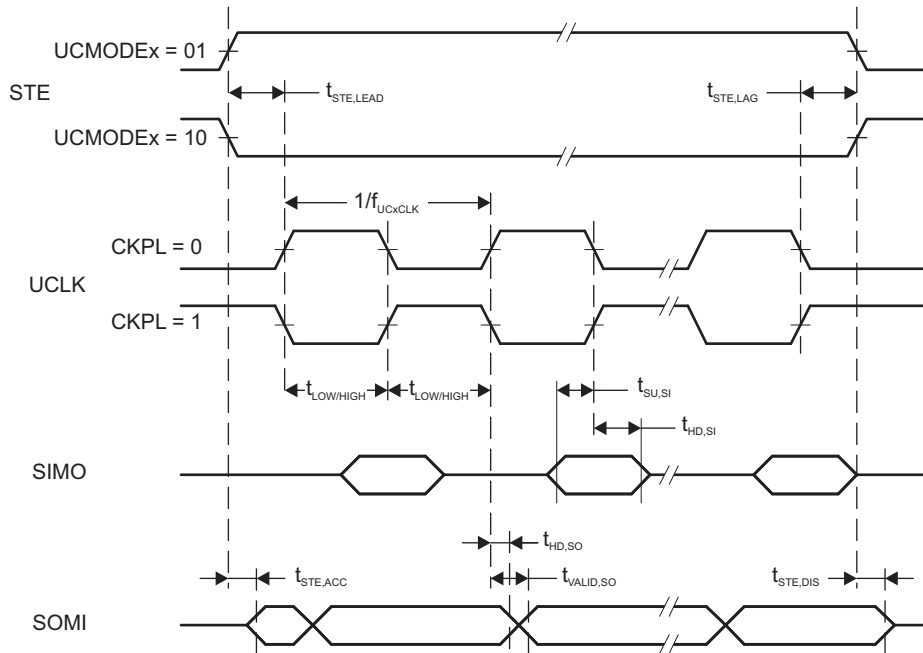
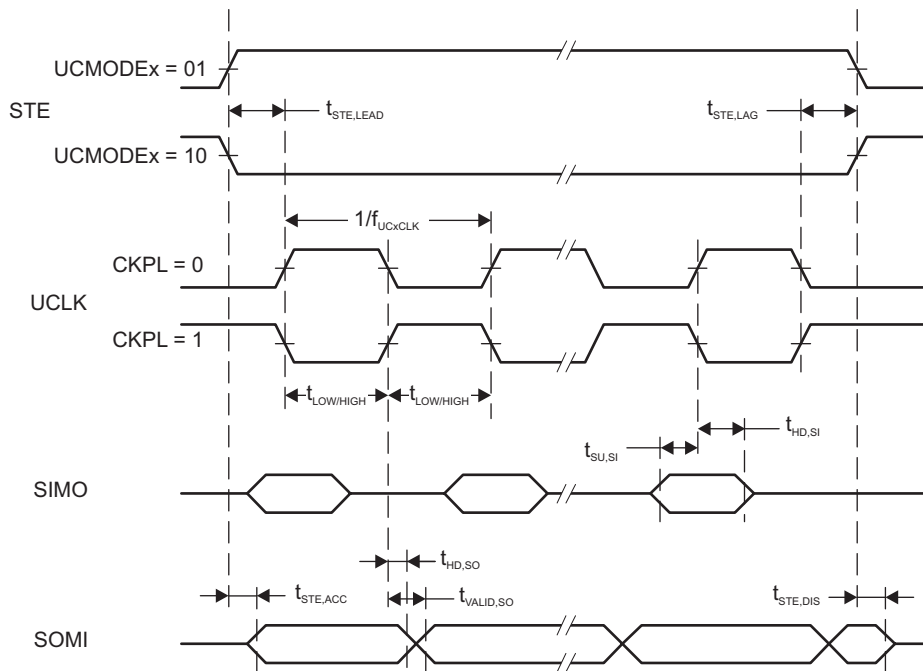

Figure 4-17. SPI Slave Mode, CKPH = 0
Figure 4-18. SPI Slave Mode, CKPH = 1
- (2) Specifies the time to drive the next valid data to the SOMI output after the output changing UCLK clock edge. See the timing diagrams in Figure 4-17 and Figure 4-18.
- (3) Specifies how long data on the SOMI output is valid after the output changing UCLK clock edge. See the timing diagrams in Figure 4-17 and Figure 4-18.